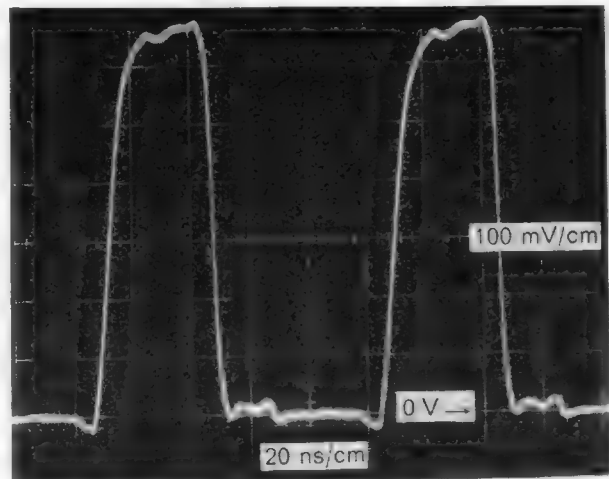

Fig. X-1. "10 MHz OUT" signal
21.2. Check that oscilloscope displays a signal with waveform and amplitude similar to figure X-1.